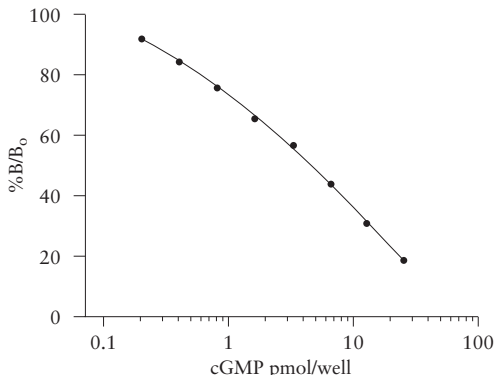

Figure 2. Typical standard curve: non-acetylation protocol.
- 3) Plot % B/B_0 (y-axis) against the amount of standard per well (x-axis). The curve shape should be similar to figures 2 and 3, if plotted on semi-log paper.